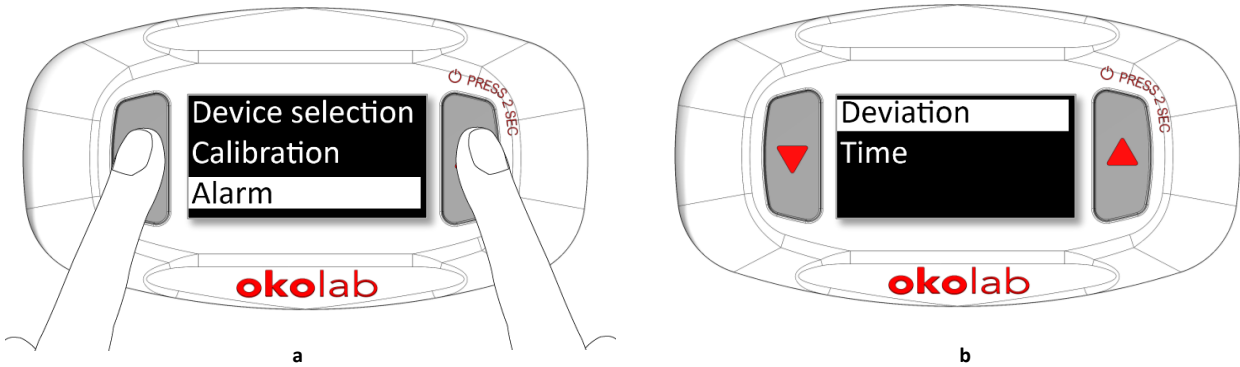

Figure 24. Alarms settings. (a) How to enter the Alarm setting menu; (b) Alarm configuration.
1. Press UP & DOWN buttons at the same time for 1 second (see Figure 24 a) to enter the *Alarm page*. The submenu will appear as shown in Figure 24 b.